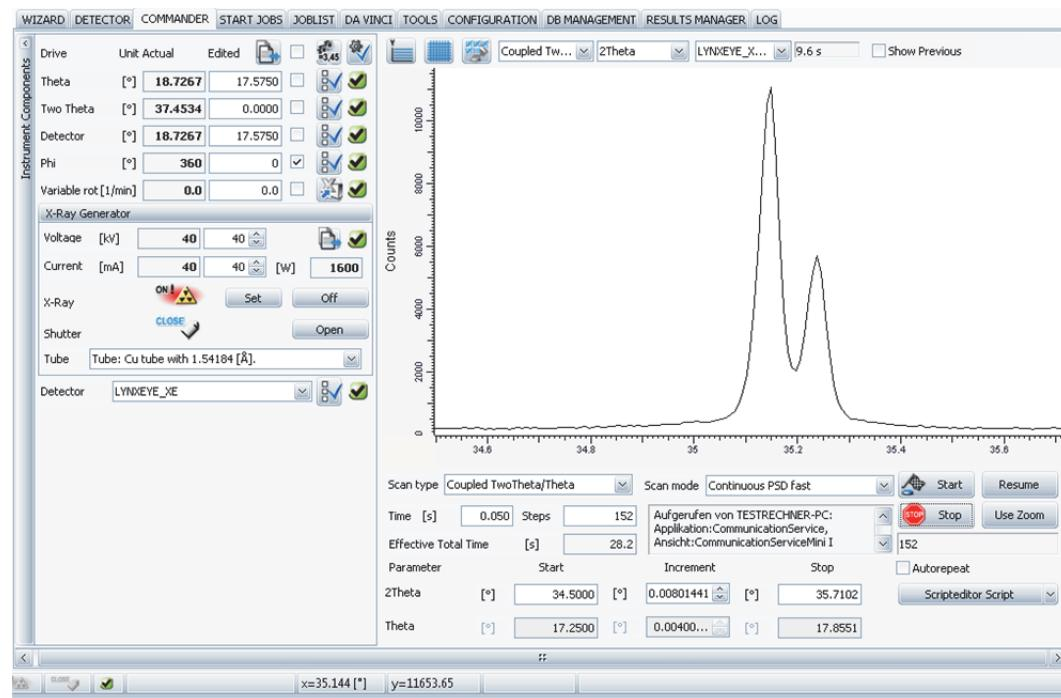

Figure 6.31: Position check of the ‘Resolution’ and ‘Offset’ determination
12. Perform a locked coupled scan using 0.05s/0.008° from 34.5 to 35.7° in 2θ to check the result of the spatial calibration, see Figure 6.31